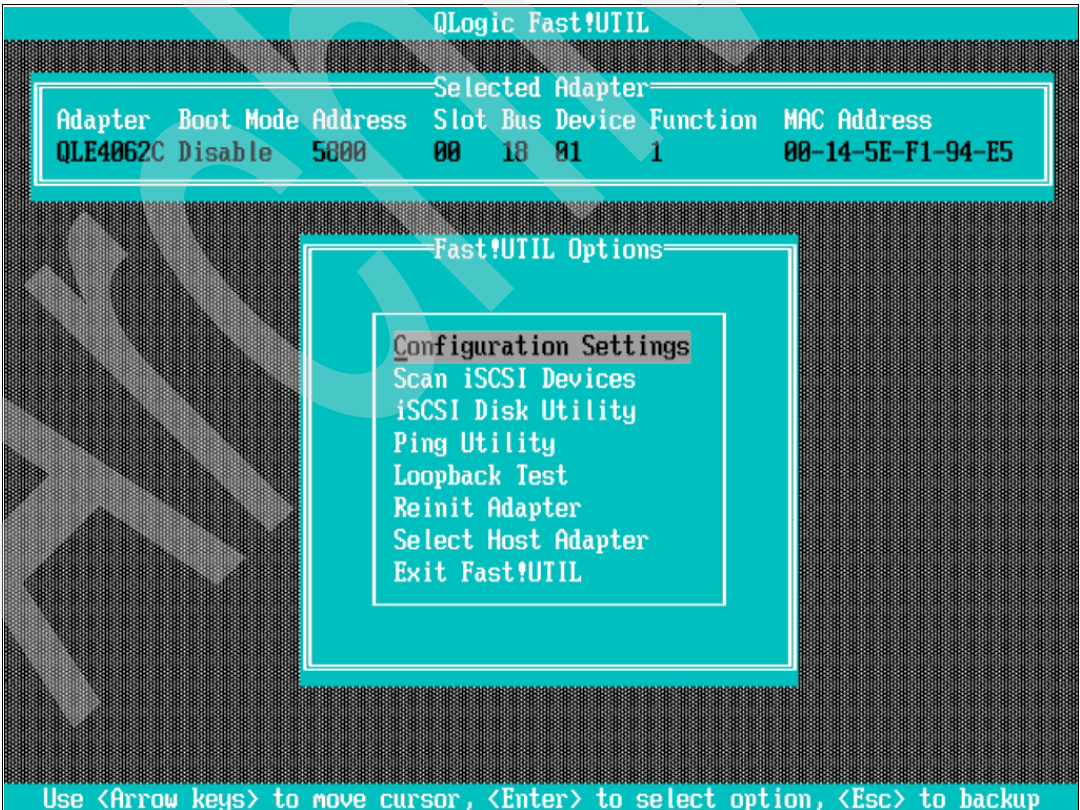
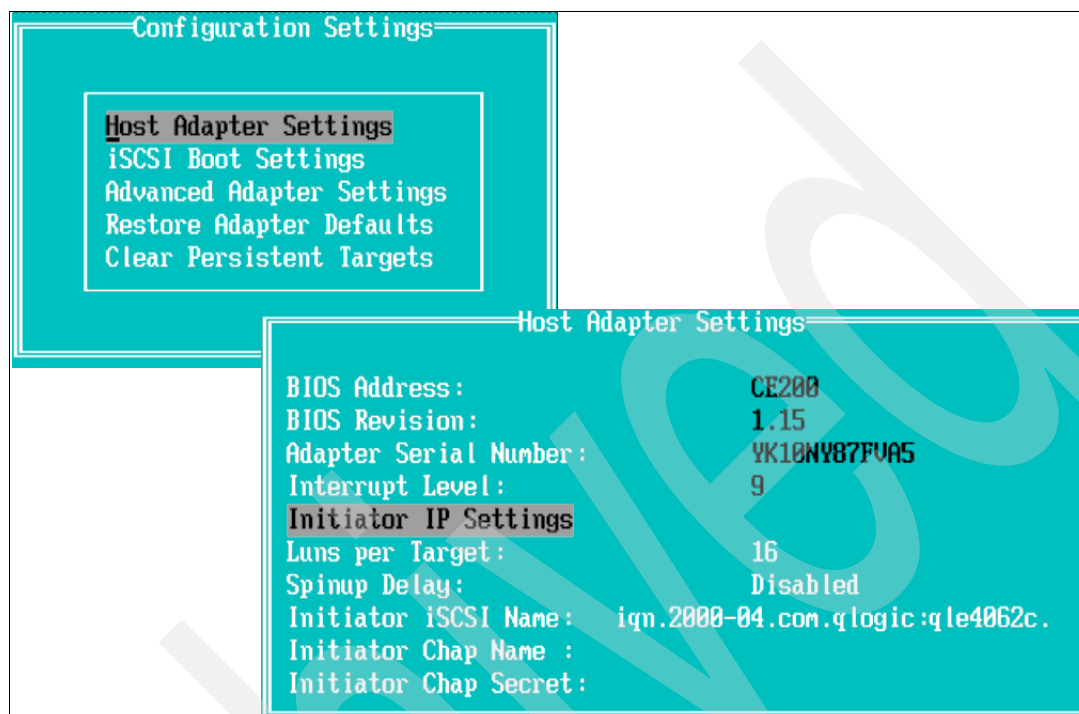
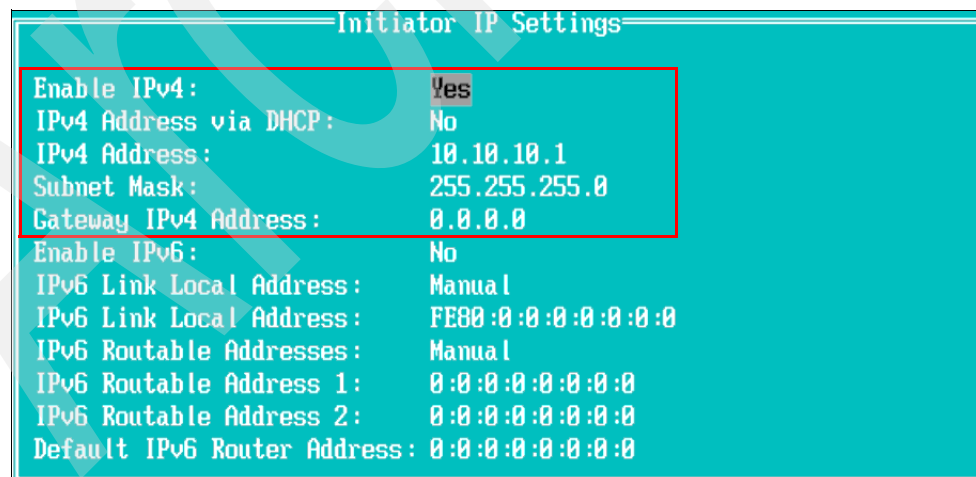
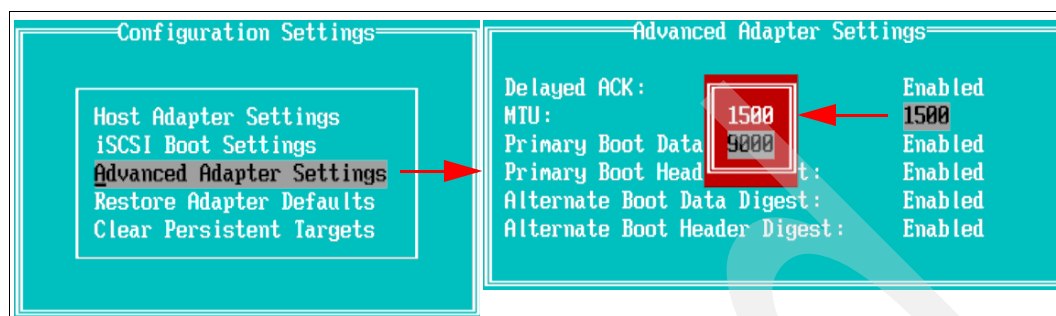

Figure 5-20 Fast!UTIL Options menu window
Figure 5-21 Host Adapter Settings window
Figure 5-22 Initiator IP Settings windows
Figure 5-23 MTU size setting
3. From the QLogic Fast!UTIL menu, select the first host bus adapter port (port 0) and press Enter. You see a window similar to Figure 5-20.
- From the Fast!UTIL Options window (Figure 5-20 on page 226), select **Configuration Settings** and press Enter. From the same window, select **Host Adapter Settings** and press Enter to input the HBA configuration parameters, which must be specified before any targets can be configured. You see a window similar to Figure 5-21.
- Pressing Enter on the *Initiator IP Settings* as shown in Figure 5-21. A new window is displayed (Figure 5-22) where all IP settings can be changed. Press Enter for each entry you want to change.
- Initiator IP Address (Figure 5-22 on page 227)
7. After changing each setting and pressing Enter, press Esc to exit. You see a window similar to Figure 5-22 on page 227. In our example, we only changed the IP address and subnet mask.
8. If you need to change the MTU size to jumbo frames, go from the *Configuration Settings* menu to *Advanced Adapter Settings* as in Figure 5-20 on page 226 and change the *MTU* value to *9000* (see Figure 5-23 here). You have the choice of 1500 and 9000 only.
9. Going back to the *Fast!Util Options* window (Figure 5-20 on page 226) and choosing **Scan iSCSI Devices** will force the HBA to log into the DS5000 controller. That helps later when doing storage partitioning in “Step 2: DS5000 storage provisioning”.